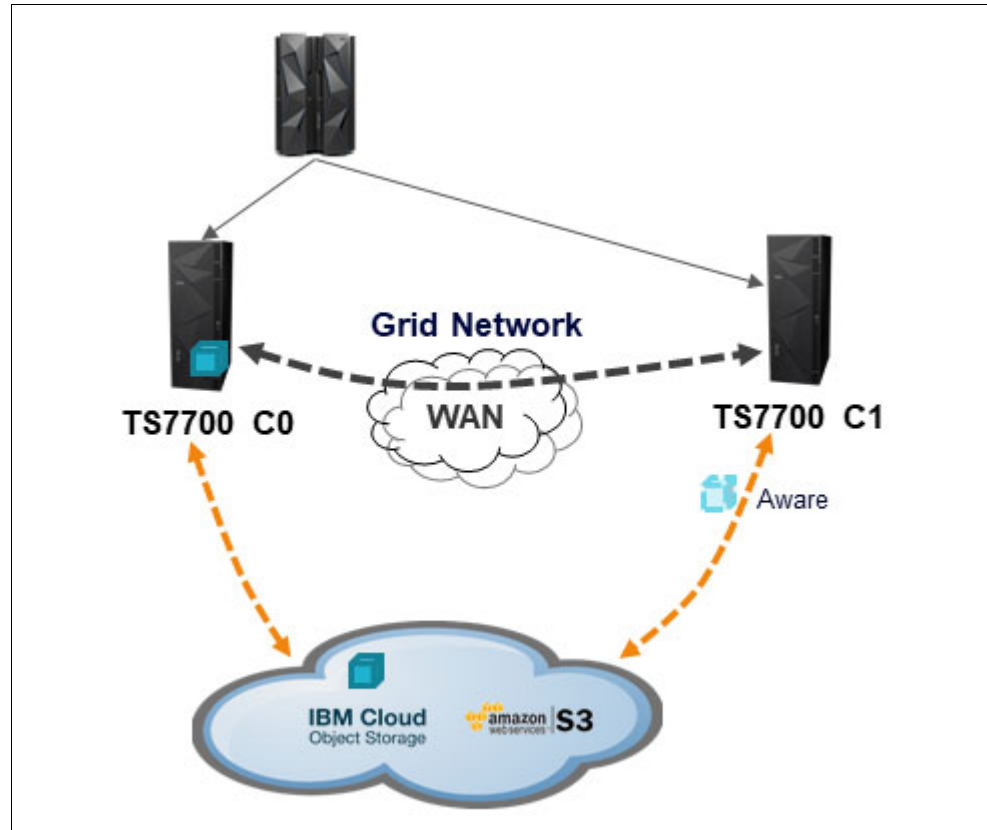

Figure 8-1 Cloud Attached Clusters with Grid Cloud Awareness
- Volumes that are pre-migrated or migrated to the cloud storage tier are automatically made available to a newly joined cluster if it is configured to access the cloud, as shown in Figure 8-1.